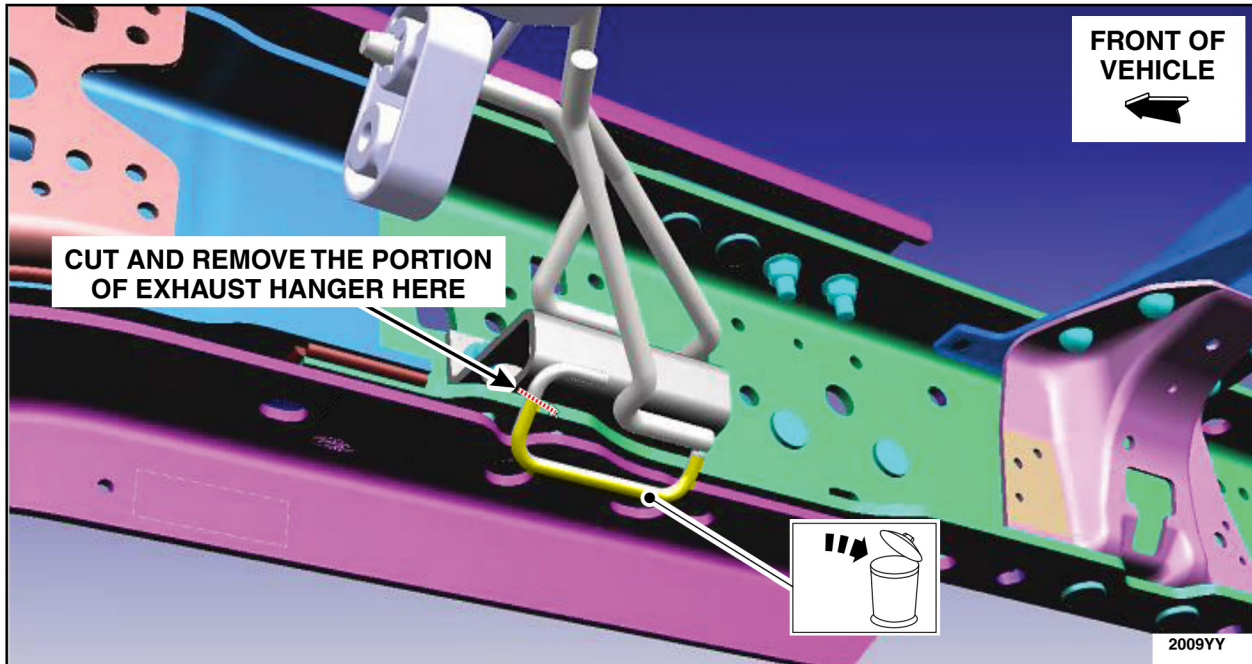

FIGURE 44
2. Using a suitable cutting tool, cut the exhaust hanger in the location shown in Figure 44. Remove and discard the cut off portion of exhaust hanger. See Figure 44.